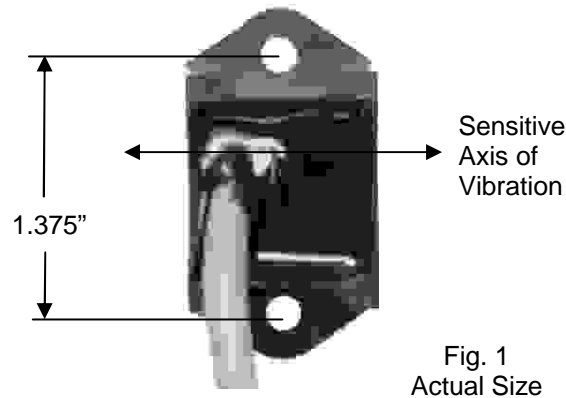
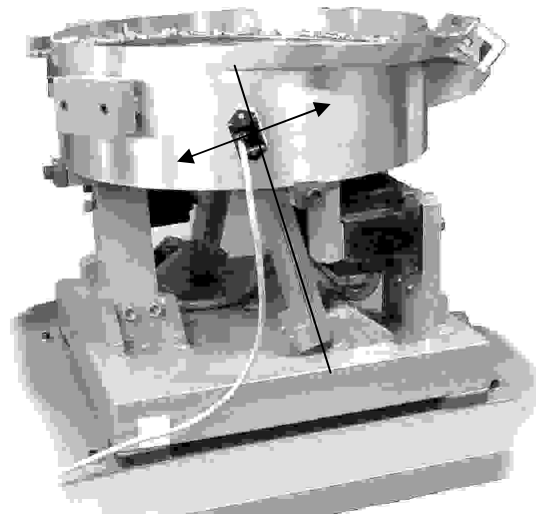

Fig. 1
Fig. 2 The arrow shows the direction of vibration which is at a right angle to the spring pack.
A. ORIENT THE SENSOR so that its sensitive axis is in the same direction as the vibration of the feeder. The double-ended arrow in figure 1 shows the sensor's sensitive axis. Align the sensitive axis of the sensor in the same direction as the vibration (see figure 2). The sensor must be oriented correctly for proper operation.